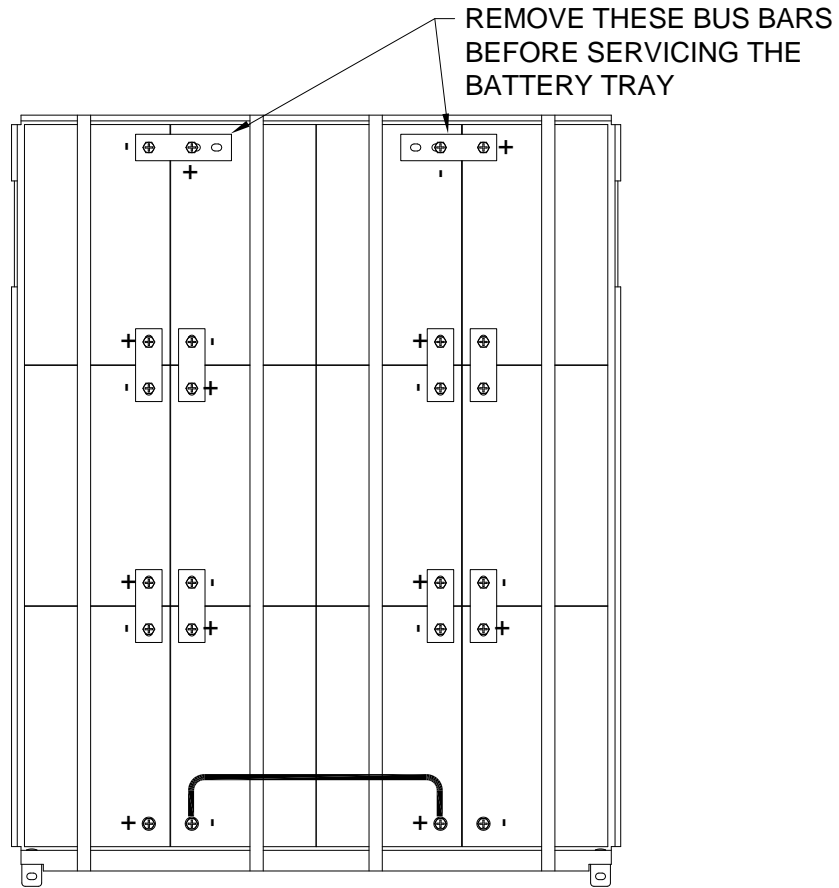

Figure 10 - Battery Tray
To service the battery trays, they must be removed from the cabinet by a fork lift. The (2) two bus bars at the back of the tray, as shown in figure 10, must be removed before servicing or replacing the batteries.